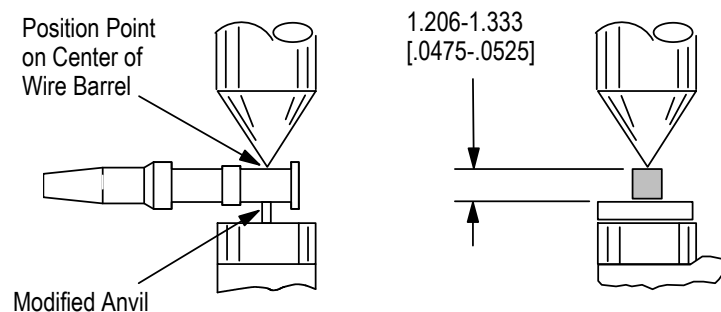

Figure 5
This tool is provided with a crimp adjustment feature. Initially, the crimp height should be verified as specified in Figures 5 and 6. Refer to Section 5, Inspection, and Section 6, Crimp height Adjustment, to verify crimp before using the tool to crimp desired connectors and wire sizes.
This inspection requires the use of a micrometer with a modified anvil as shown in Figure 5.
3. Using a crimp height comparator, measure the crimp height as shown in Figure 5. If the crimp height conforms to that shown, the die assembly is considered dimensionally correct. If not, return the dies to TE for evaluation and repair (refer to Section 8, DIE REPLACEMENT).